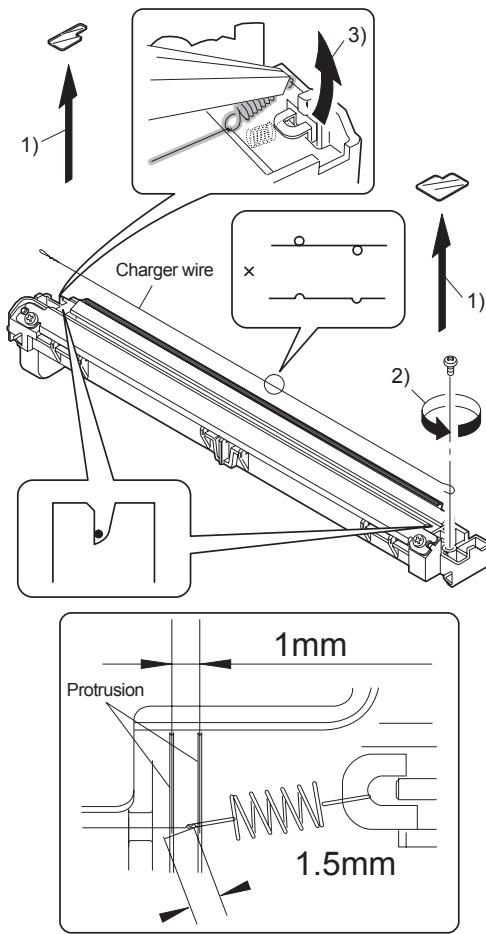

Fig.1
- 3) Install a new charger wire by reversing the procedures (1) and (2).
- The rest of the charger wire must be within 1.5mm. Refer to Fig.1